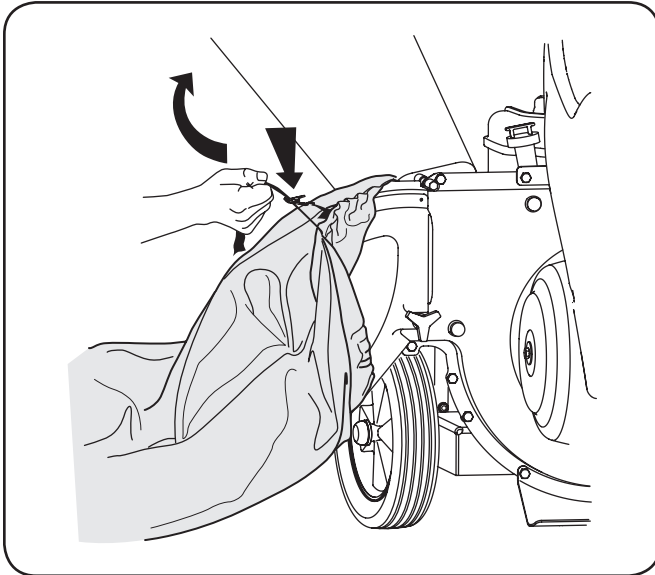

Figure 5-1
2. Un-clip drawstring and loosen bag from chute deflector opening. See Figure 5-1.